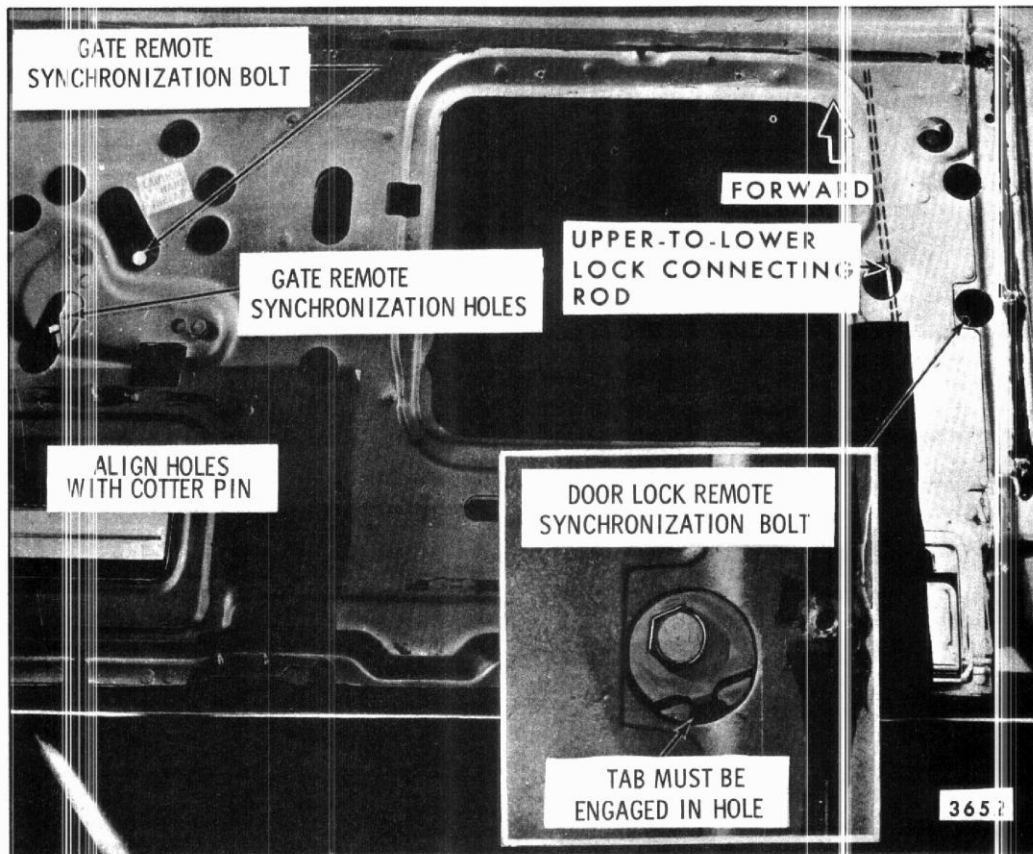

Fig. 9-27-Dual Acting Tail Gate Lock Synchronization
5. With the right lower lock fully engaged with the striker, reach through the access hole and hold the lower to upper lock connecting rod forward (Figure 9-27), then tighten door lock, synchronization bolt (Figure 9-27).
6. With right and left upper locks in a locked position, visually check gate remote synchronization holes in gate remote control levers (center of gate as shown in Figure 9-27). IF THE HOLES DO NOT LINE UP, loosen gate remote synchronization bolt (Figure 9-27) by turning to the right (left hand thread), approximately three turns.
7. With gate synchronization bolt loose, check to make certain there is no bind in remote levers. Align gate remote synchronization holes in remote assembly by inserting a cotter pin through alignment hole in both levers (Figure 9-27). Then, tighten synchronization bolt to 57-87 inch pounds and REMOVE COTTER PIN.
3. Loosen door lock synchronization (adjusting) bolt (Figure 9-27).
lower to upper lock connecting rod forward (Figure 9-27), then tighten door lock synchronization (adjusting) bolt Figure 9-27.
position, visually check gate remote synchronization holes in gate remote control levers (center of gate as shown in Figure 9-17). If the holes do not line up, loosen gate remote synchronization bolt (Figure 9-27) by turning to the right (left hand thread) approximately three turns.